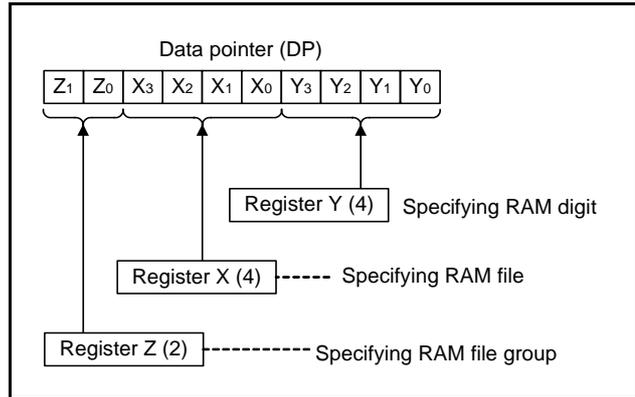
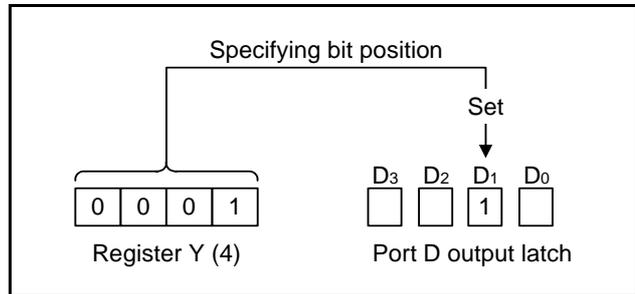

Fig 19. Data pointer (DP) structure
Fig 20. SD instruction execution example
(9) Data pointer (DP)
Data pointer (DP) is used to specify a RAM address and consists of registers Z, X, and Y. Register Z specifies a RAM file group, register X specifies a file, and register Y specifies a RAM digit (Figure 19). Register Y is also used to specify the port D bit position. When using port D, set the port D bit position to register Y certainly and execute the SD, RD, or SZD instruction (Figure 20).